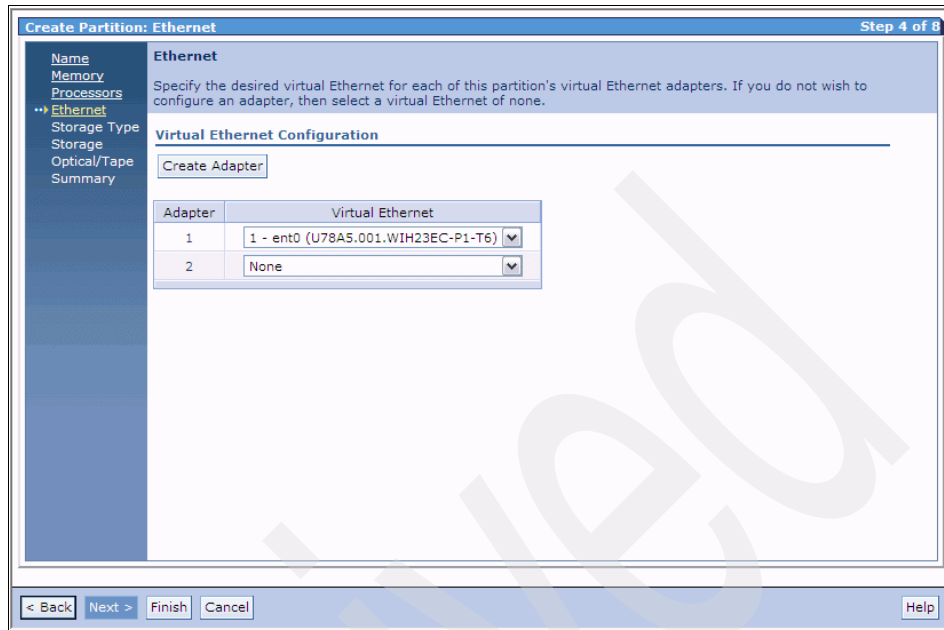

Figure 5-15 Ethernet selection for a shared memory partition
4. The next configuration step is Ethernet selection. As shown in Figure 5-15 on page 193, the only options are virtual Ethernet adapters. In this example we are using an existing Share Ethernet Adapter (SEA). Click **Next** to continue to the storage options.